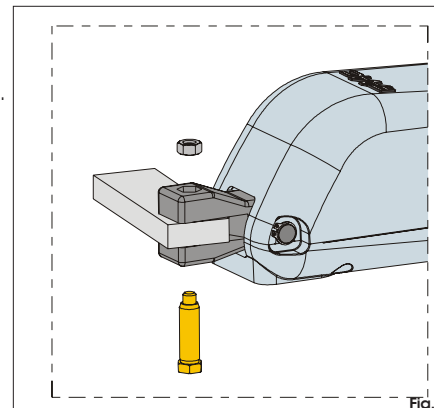

Fig. 11
8) Fix the operator to the rear bracket by means of the supplied pins as shown in Fig.11.